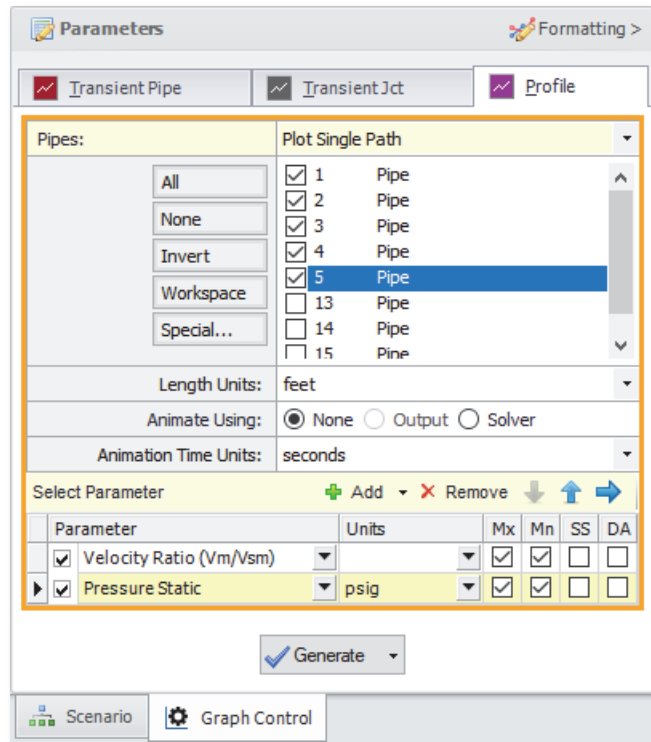

Figure 6.5 Data selection to view the maximum and minimum values of the velocity ratio and static pressure along the flow path to Deposit #1.
4. Select pipes P1, P2, P3, P4 and P5 (Figure 6.5). These represent the flow path to Deposit #1.